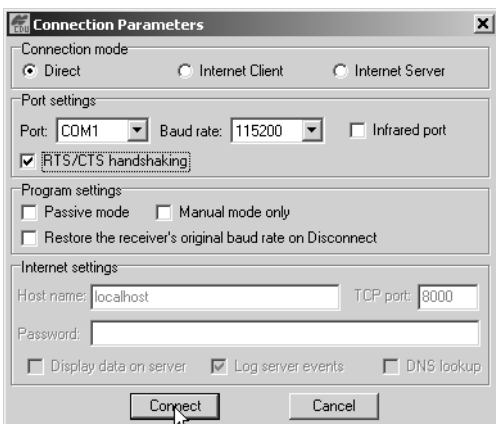

Figure 2-20. Connection Parameters – MINTER Settings
2. On the Connection parameters dialog box, enable RTS/CTS handshaking (Figure 2-20 on page 2-22).